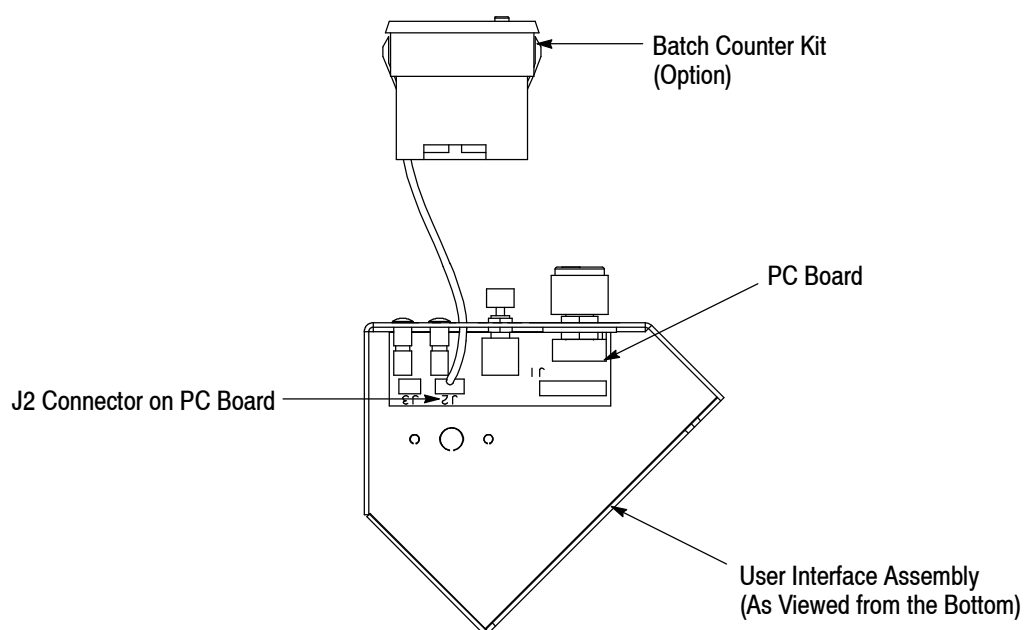

Figure 26
6. Plug the batch counter connector into the J2 connector on the user interface assembly pc board. See Figure 26.